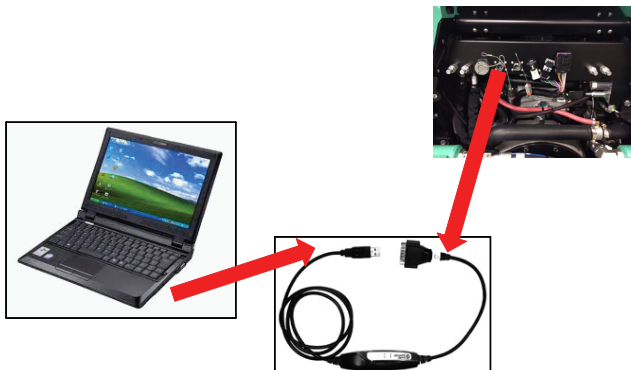

Figure 18. Connecting the Laptop
3. Connect the USB connector of the CAN Gateway cable to the USB port (Figure 18).